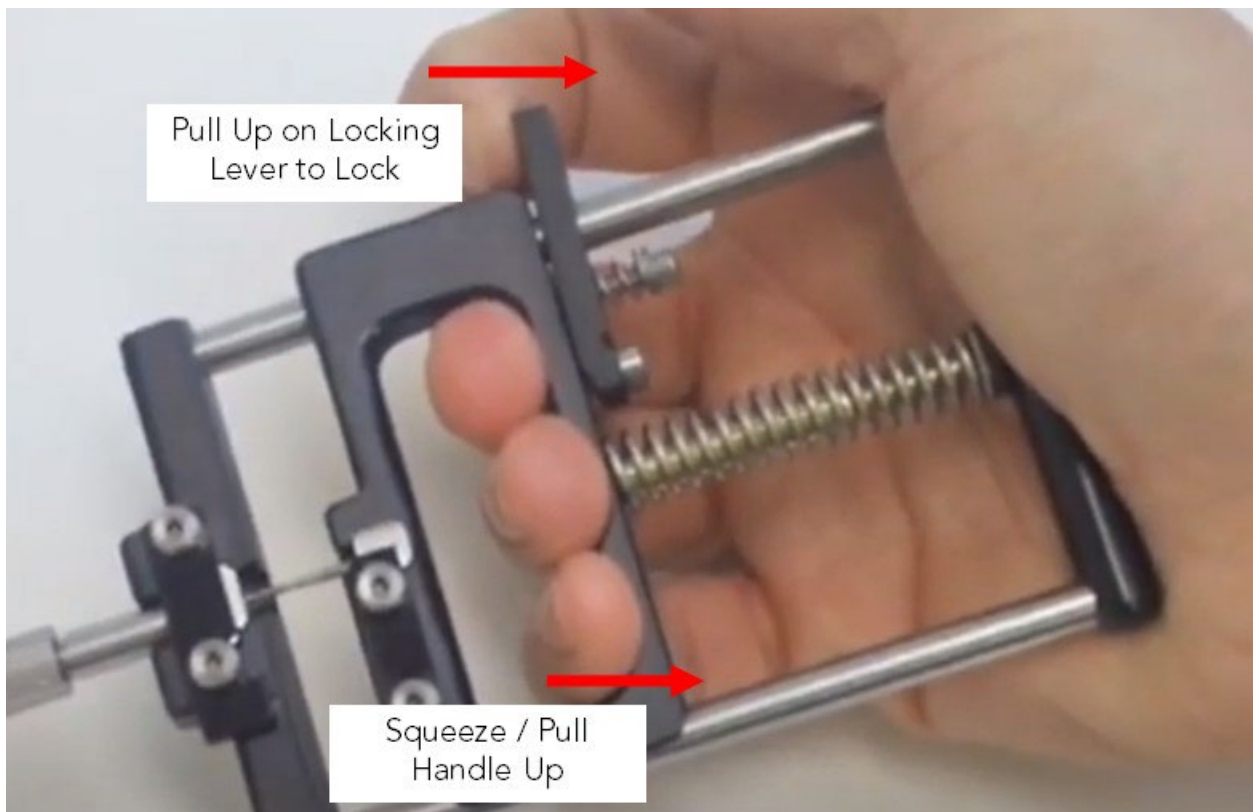

Figure 11 Locking Handle Use
- 5) Squeeze handle & lift up on locking bar to hold tool in place See Figure 11